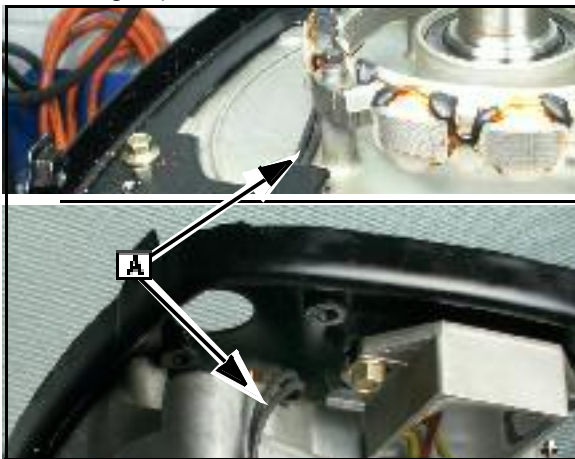

Fig. 43
7. Loosely position the back plate and route the alternator wires as shown in ([A] Fig.43).